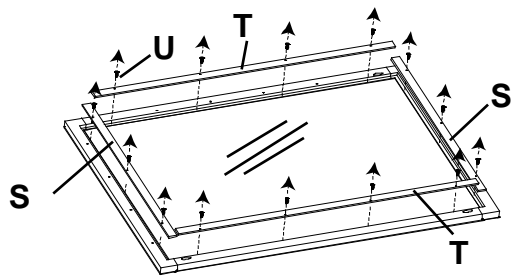

Fig. 1
1. To finish the Mirror Assembly (Ab), you must first lay it face-down on a clean, protected surface. Remove the #6 x 5/8" Philtruss Screws (U), the Short Mirror Retainer (S), Long Mirror Retainer (T) and set aside. Carefully lift the Mirror (B) and put it safely away. Finish the Mirror Frame (Cb), Short Mirror Retainer and Long Mirror Retainer. After the finish dries, replace the Mirror and attach the Short Mirror Retainer (S), the Long Mirror Retainer (T) with #6 x 5/8" Philtruss Screws (U). See Figures 1, 1a and 1b.